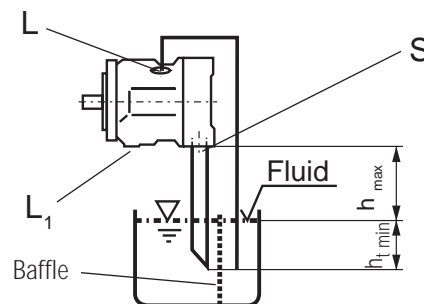

Fig. 4
b) If the minimum fluid level is equal to or below the top of the pump, pipe ports "L" and possibly "S" as Fig. 4.; close port "L₁". The conditions according to item 1.2.1.
a) When mounting above the reservoir, see Fig. 4.